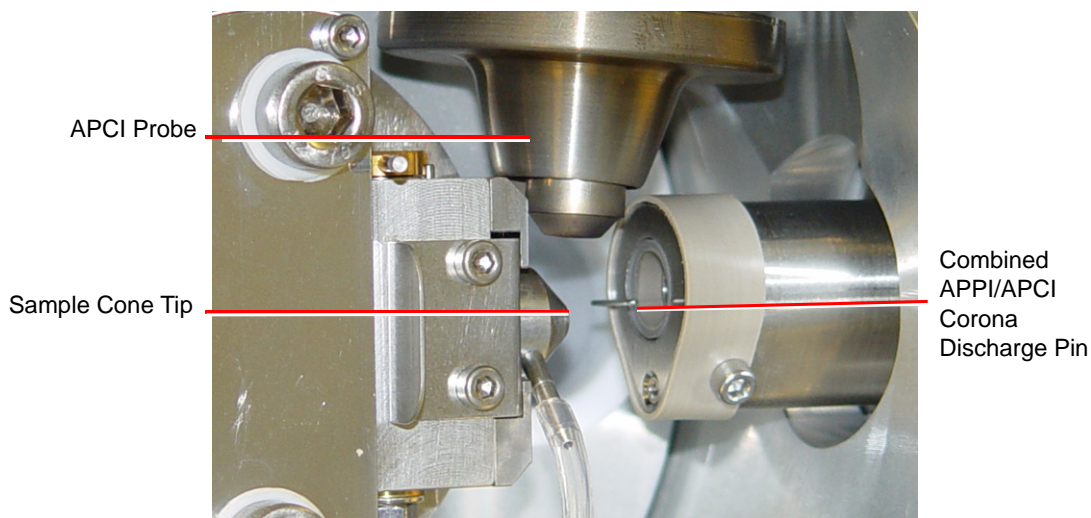

Figure 5-12 Combined APPI/APCI Corona Discharge Pin Alignment
8. Fit the dual APPI/APCI corona discharge pin into the mounting contact. Ensure that the pin tip aligns with the sample cone tip (Figure 5-12).